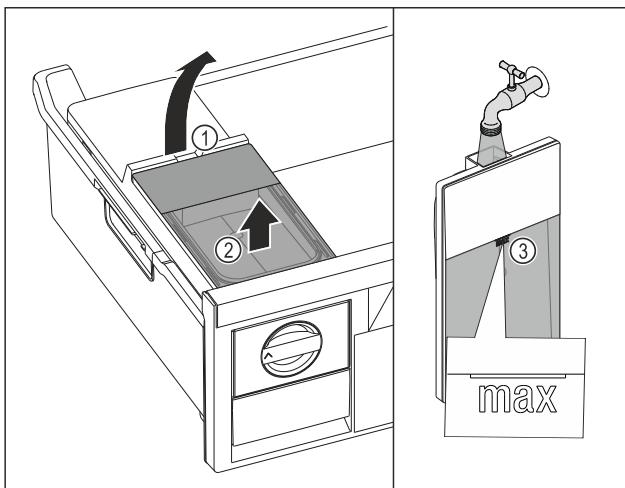

Fig. 149
- Lift the water tank at the recess Fig. 149 (1).
- Remove the water tank by lifting it upward. Fig. 149 (2).
- Fill the water tank with drinking water up to the mark Fig. 149 (3).